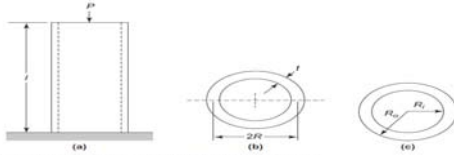

FIGURE 2.7 (a) Tubular column; (b) formulation 1; (c) formulation 2.
STEP 1: PROJECT/PROBLEM DESCRIPTION Straight columns are used as structural elements in civil, mechanical, aerospace, agricultural, and automotive structures. Many such applications can be observed in daily life—for example, a street light pole, a traffic light post, a flag pole, a water tower support, a highway sign post, a power transmission pole. It is important to optimize the design of a straight column since it may be mass-produced. The objective of this project is to design a minimum-mass *tubular* column of length l supporting a load P without buckling or overstressing. The column is fixed at the base and free at the top, as shown in Figure 2.7. This type of structure is called a cantilever column.